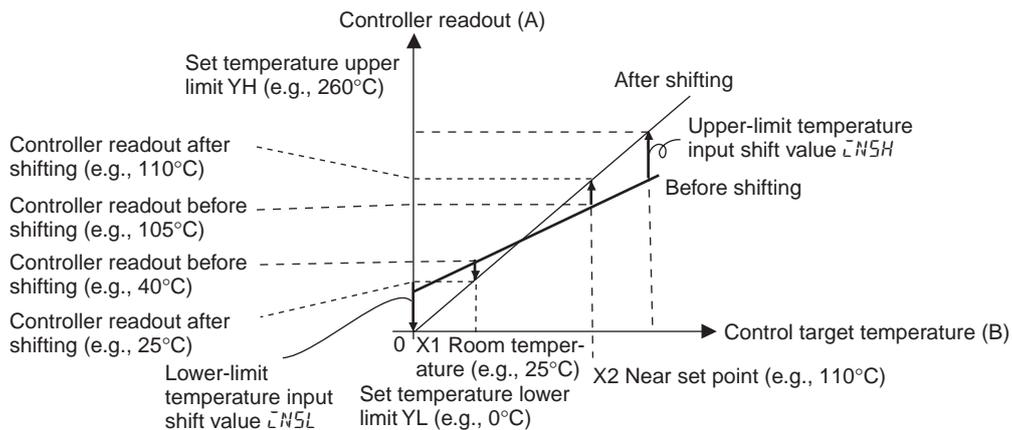

Figure 3 Illustration of 2-Point Shift
1. Shift the Controller readout at two points, near room temperature and near the value at which the temperature of the control target is to be controlled. For this reason, check the control target temperature (B) and Controller readout (A) with the control object temperature near room temperature and near the set point.
2. Use the following formulas with the readouts checked above and the desired temperature values to calculate the input shift values for the upper-limit and lower-limit temperatures of the measurement range and set the upper-limit and lower-limit temperature input shift values. The shift is illustrated in *Figure 3*.